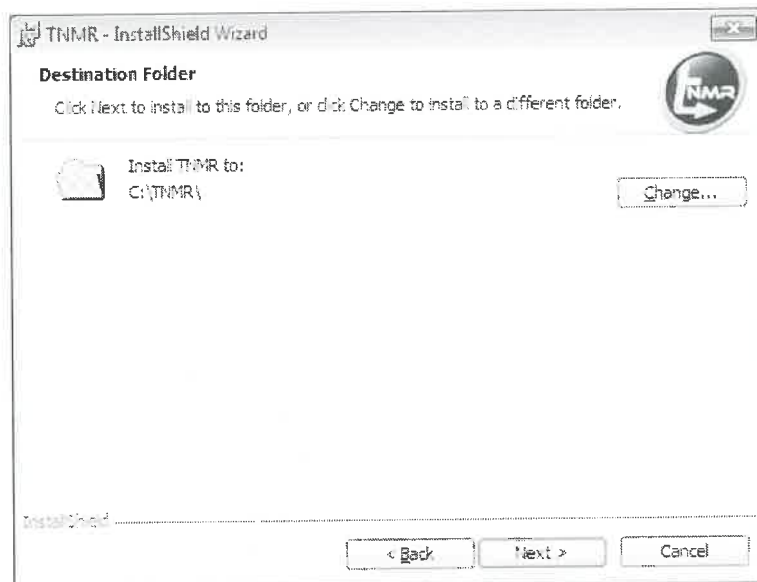

Figure 6
6. Select the Destination Folder for the installation and click Next. If the computer has multiple disks or partitions, InstallShield defaults to the root of the drive with the most available space. **It is highly recommended that the default folder be used.** (See Figure 6)